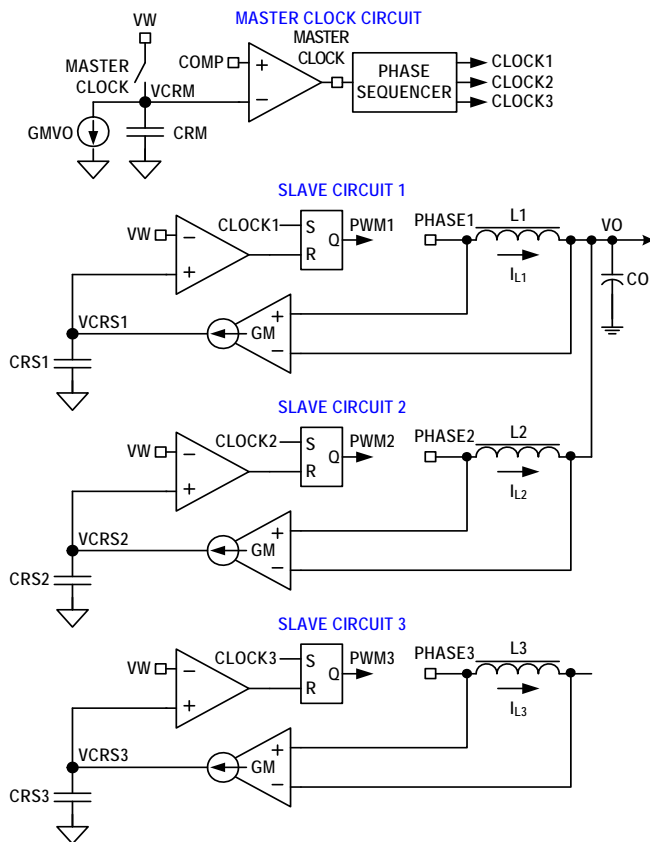
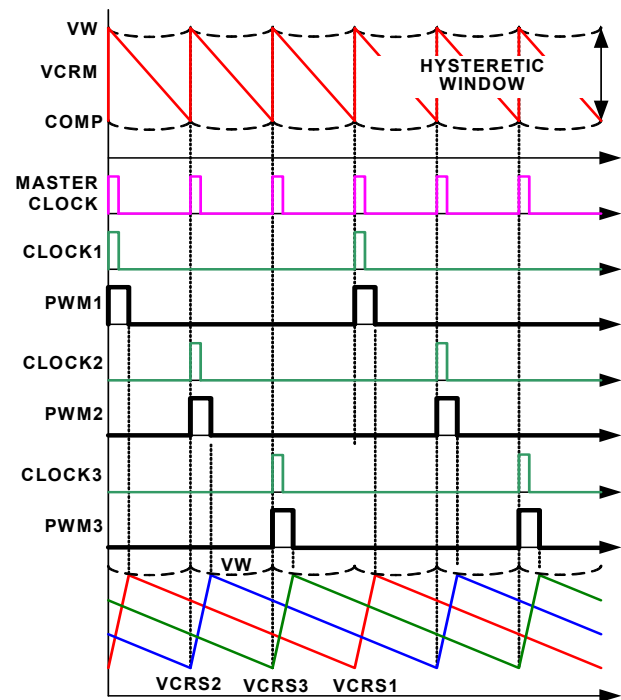

FIGURE 5. R3™ MODULATOR CIRCUIT
FIGURE 6. R3™ MODULATOR OPERATION PRINCIPLES IN STEADY STATE
The ISL95712 is a multiphase regulator implementing two voltage regulators, CORE VR and Northbridge (NB) VR, on one chip controlled by AMD's™ SVI2™ protocol. The CORE VR can be programmed for 1-, 2-, 3- or 4-phase operation. The Northbridge VR can be configured for 1-, 2-, or 3-phase operation. Both regulators use the Intersil patented R3™ (Robust Ripple Regulator) modulator. The R3™ modulator combines the best features of fixed frequency PWM and hysteretic PWM while eliminating many of their shortcomings. Figure 5 conceptually shows the multiphase R3™ modulator circuit, and Figure 6 shows the operation principles.